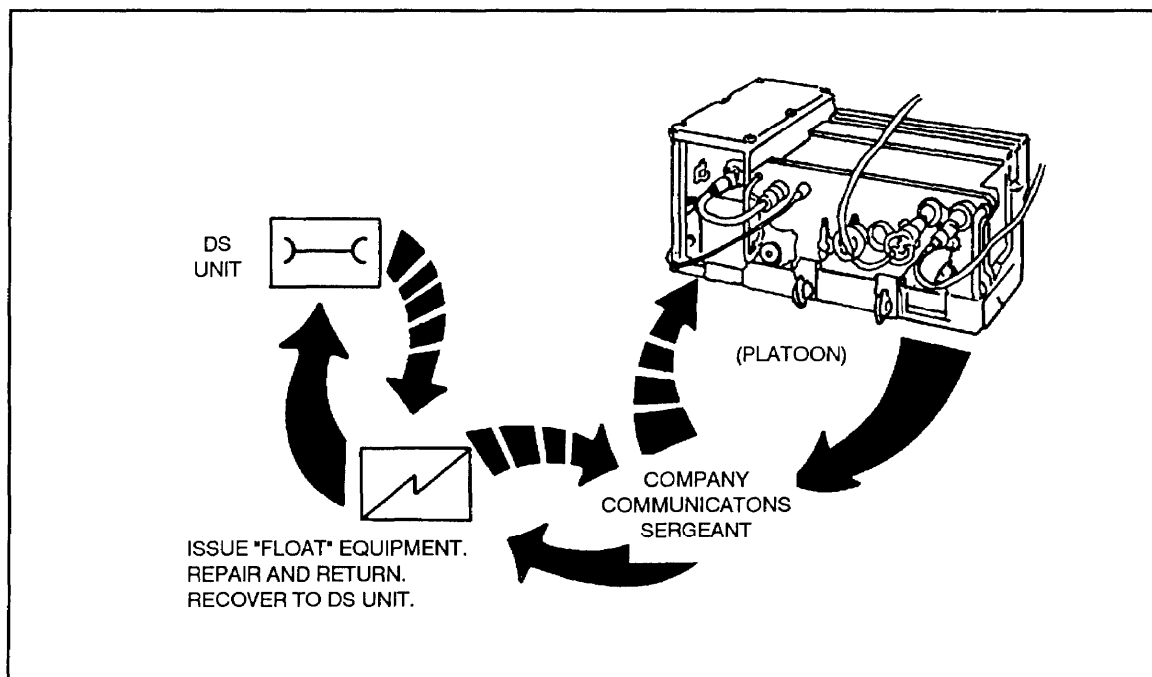

Figure 9-7. Communications equipment flow diagram.
c. When items are turned in to either the maintenance or communications platoon, a receipt (DA Form 2402, Exchange Tag) is used to show that the platoon turned in an item for repair or calibration. When the repaired item is returned, the exchange tag receipt is given back to the maintenance platoon (Figure 9-7).